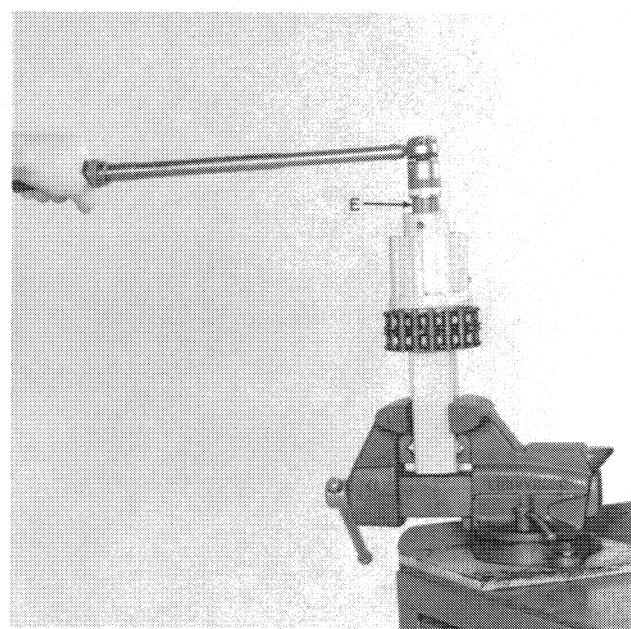

Figure 2-12
4. Check the torque with a torque wrench and 1-1/8" socket as shown in Figure 2-12.